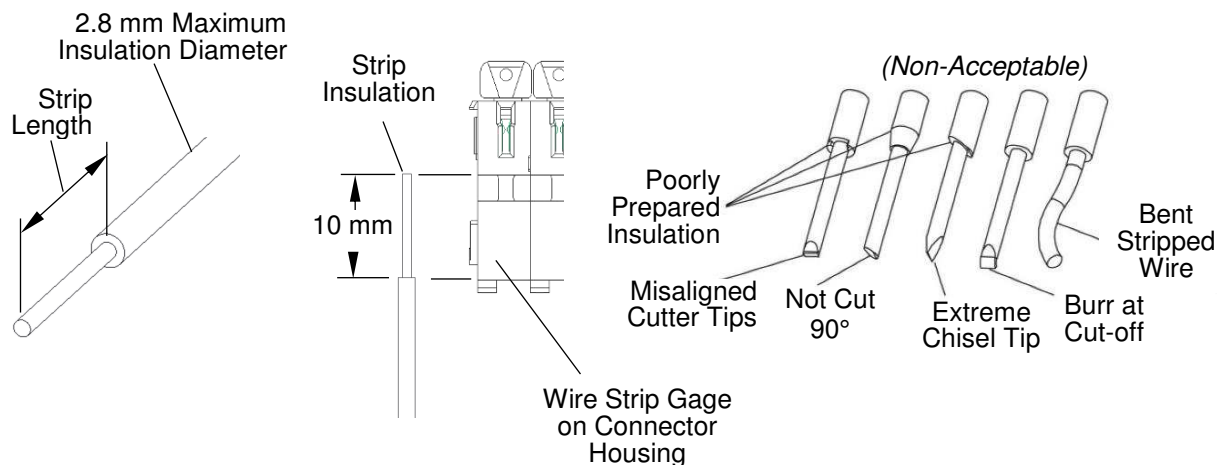

FIGURE 2
Allowable wire types are solid copper conductor in AWG sizes 18, 20, 22, and 24 (0.82-0.20mm²), as well as pre-bonded or stranded wire in AWG sizes 18, 20, and 22 (0.82-0.33mm²) with 16 strands or less. Wires should be carefully prepared to the required insulation strip length, and, avoid damage to the conductor. The wire strip length is 10.0+/-0.5mm. A “strip length gage” is provided on top surface of the connector housing to indicate length of insulation to be stripped from wire. Reference Figure 2 for additional wire preparation information.
1. Select and prepare wire as specified in paragraph 5 and Figure 2.